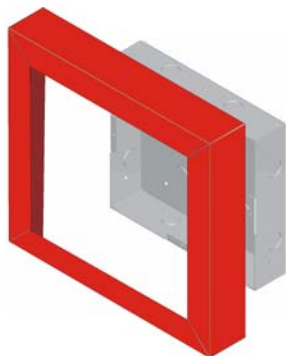

Figure 6: Installing Trim Ring
4. The RA-2000TR or RA-2000GRAYTR ring trim kits are available for use when surface mounting. Place the trim ring over the backbox as shown in Figure 6.